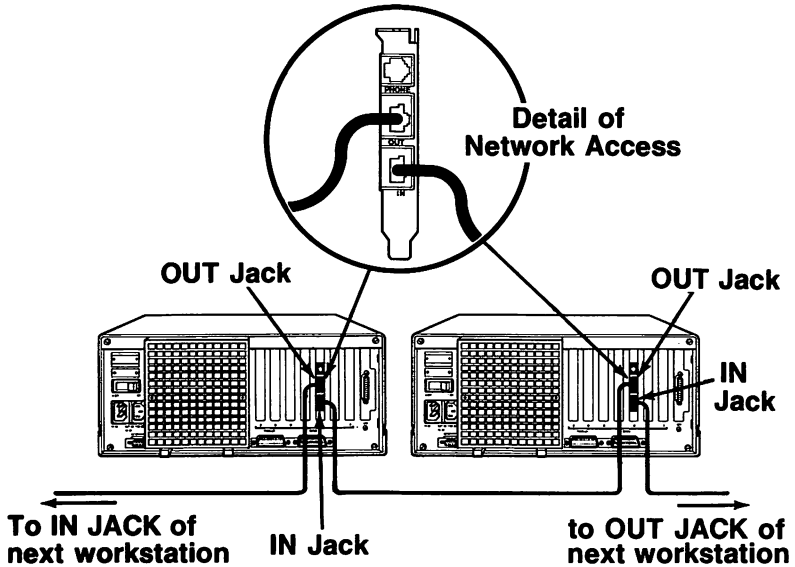

Figure 2-9. Connecting one workstation to another
- Plug one end of the modular cord that came with your XC22 Network Access Board kit into your workstation's OUT jack (Fig. 2-9).
- If you are connecting your workstation to another workstation, plug the other end of the cord into the IN jack of the other workstation's NAU. See Fig. 2-9.